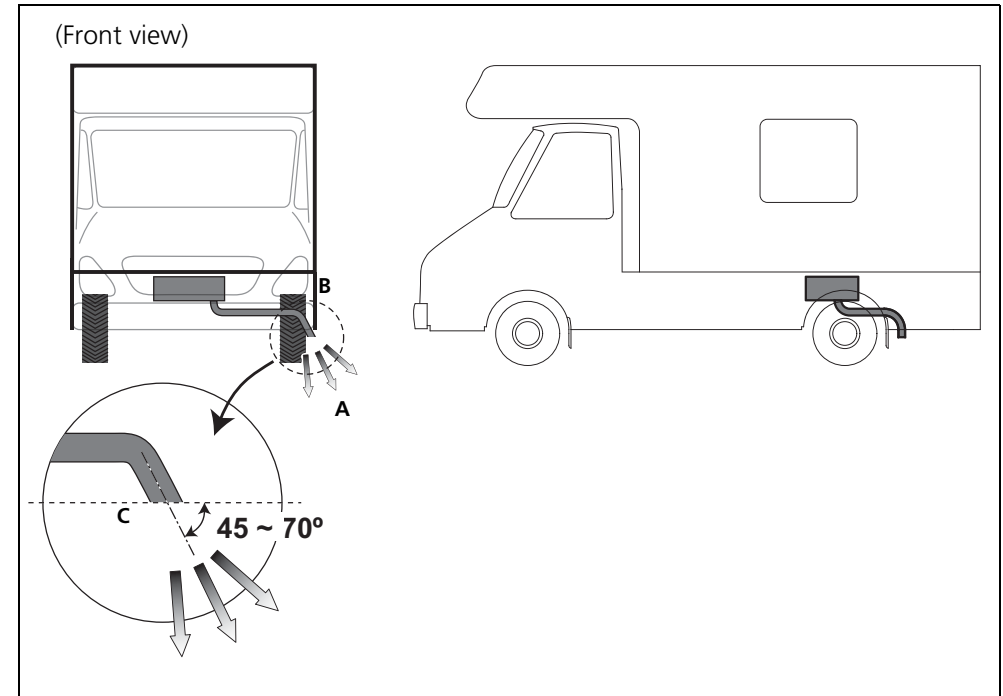

Fig. 42: Location and direction of exhaust
- The line must not point to the front of the vehicle. See Fig. 42.
- Avoid the formation of an exhaust accumulation under the vehicle. See Fig. 42.
See Fig. 42.